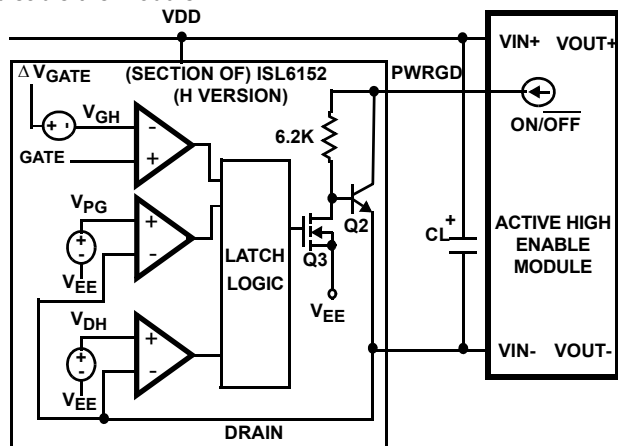

FIGURE 37. ACTIVE HIGH ENABLE MODULE
**ISL6152** (H version; Figure 37): Under normal conditions (DRAIN voltage -  $V_{EE} < V_{PG}$  and  $\Delta V_{GATE} - V_{GATE} < V_{GH}$ ), the Q3 DMOS will be on, shorting the bottom of the internal resistor to  $V_{EE}$ , turning Q2 off. If the pull-up current from the external module is high enough, the voltage drop across the 6.2k $\Omega$  resistor will look like a logic high (relative to DRAIN). Note that the module is only referenced to DRAIN, not  $V_{EE}$  (but under